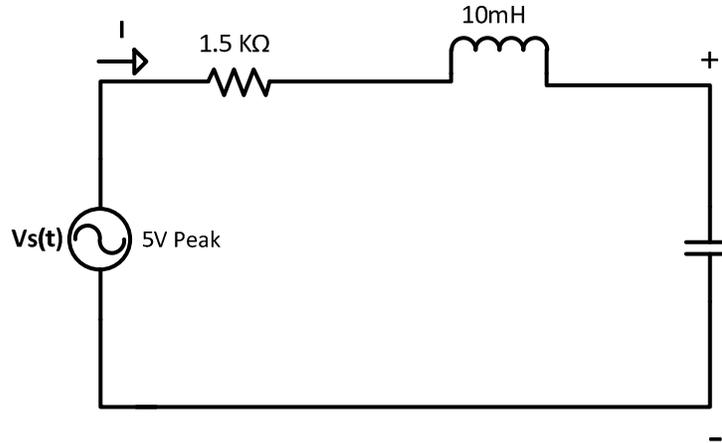

Figure. 2
For the circuit shown in Figure 2:
Experimentally, the frequency-domain phasors can be measured on the oscilloscope. The magnitudes can be measured by means of calibrated vertical scales. Phase difference can be measured by using the dual traces and measuring the time difference between two waveforms, as illustrated in Figure. 2.
- 2- Connect the circuit of Figure. 2. Adjust the source voltage to 5 V peak at 20 kHz, **while it is connected to the circuit.**
- 1- Draw the circuit of Figure. 2 in the frequency domain (in the phasor representation). Use the space available in the report sheet at the end of the experiment.